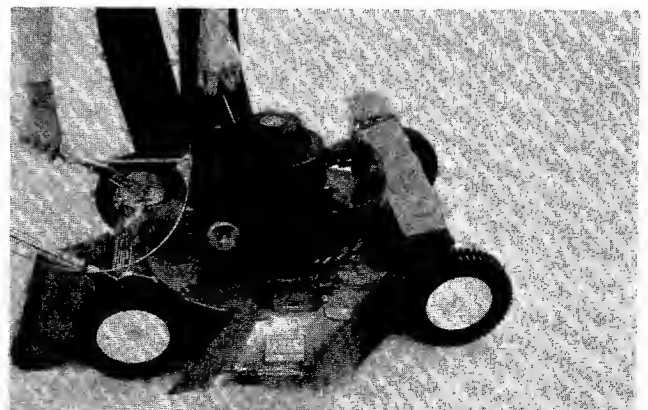

FIGURE 9.
3. Place foot on left side of deck and hold handle to prevent tipping the unit. Grasp starter handle as shown in figure 9 and pull out rapidly. Return it slowly to the engine. Repeat if necessary.